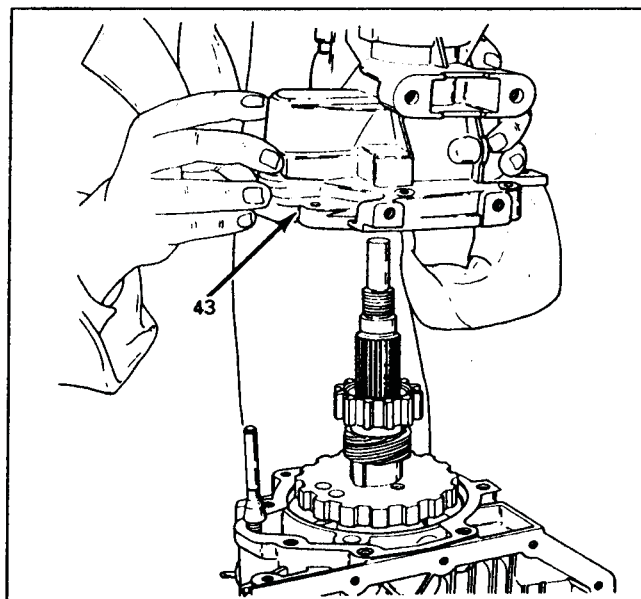

Figure 26
9. Remove the extension housing as shown in Figure 26.